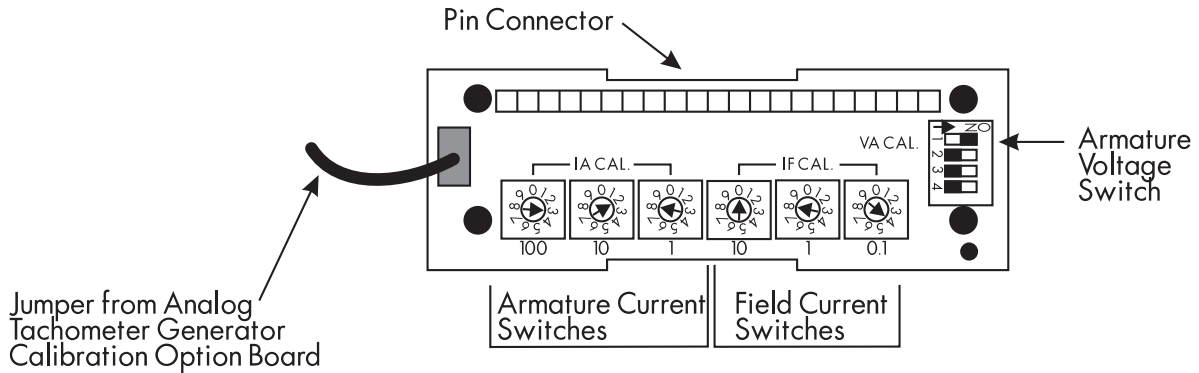

Figure 3.12 - Switchable Calibration and Tachometer Boards
2. Set the armature current to the motor's nameplate rating minus one (1) amp. Armature current is set in units of amps using the left three rotary switches for hundreds, tens, and ones. The range for these switches is from 1 to 720 amps. Turn the rotary switches to the appropriate settings for your motor. Figure 3.12 is set for a 329 amp motor.